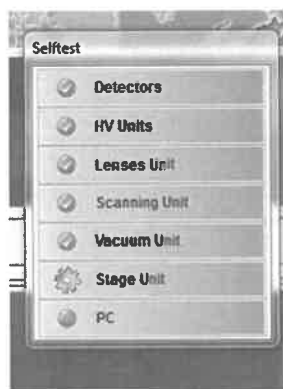

Figure 2. Diagnostics
- (1) The TESCAN PC is running.
- (2) The MIRA3 software is running with no user logged in.
- (3) The chamber is empty and the stage is in the HOME position. Note: This cannot be verified until the user logs in.
- c. Login to the MIRA3 software. The software will run a self-diagnostic sequence and will boot with the users last saved settings. These settings should include an IR camera window. Verify that the stage is in the HOME position ($x=0$, $y=0$, $z=40$, $Rot=0$, and $Tilt=0$). See Figure 2 and 3.